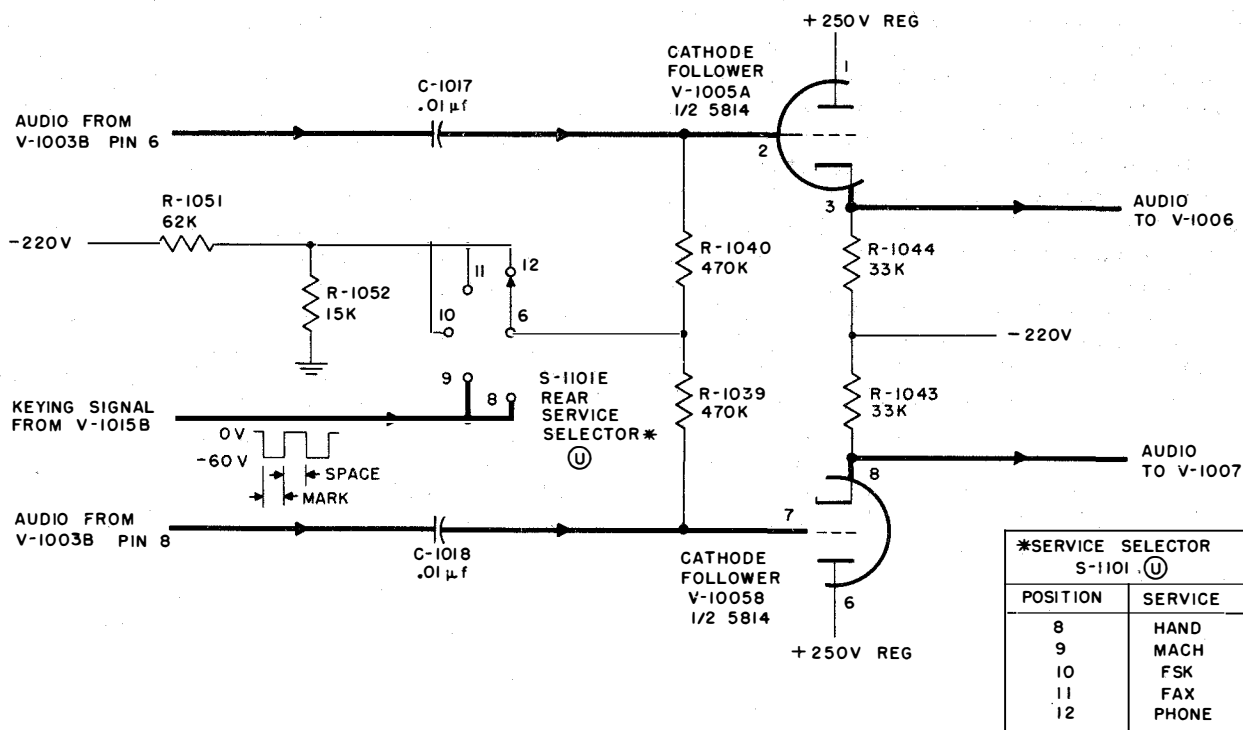

Figure 2-77. Push-Pull Cathode Followers, V-1005A and V-1005B, Simplified Schematic
(b) PUSH-PULL CATHODE FOLLOWERS V-1005A AND V-1005B.—The push-pull cathode followers V-1005A and V-1005B (figure 2-77) act as drivers for the push-pull power amplifiers, V-1006 and V-1007. As the power amplifier stage acts as a class AB₂ push-pull amplifier, the push-pull cathode follower tubes supply energy to a low impedance during the portion of the cycle that the grids of the power amplifier draw current. With the SERVICE SELECTOR switch (U), S-1101, in the PHONE position, the voltage divider action of R-1051 and R-1052 from -220 volts to ground puts a d-c potential of -40 volts on the grids of the push-pull cathode followers, through contacts 12 and 6